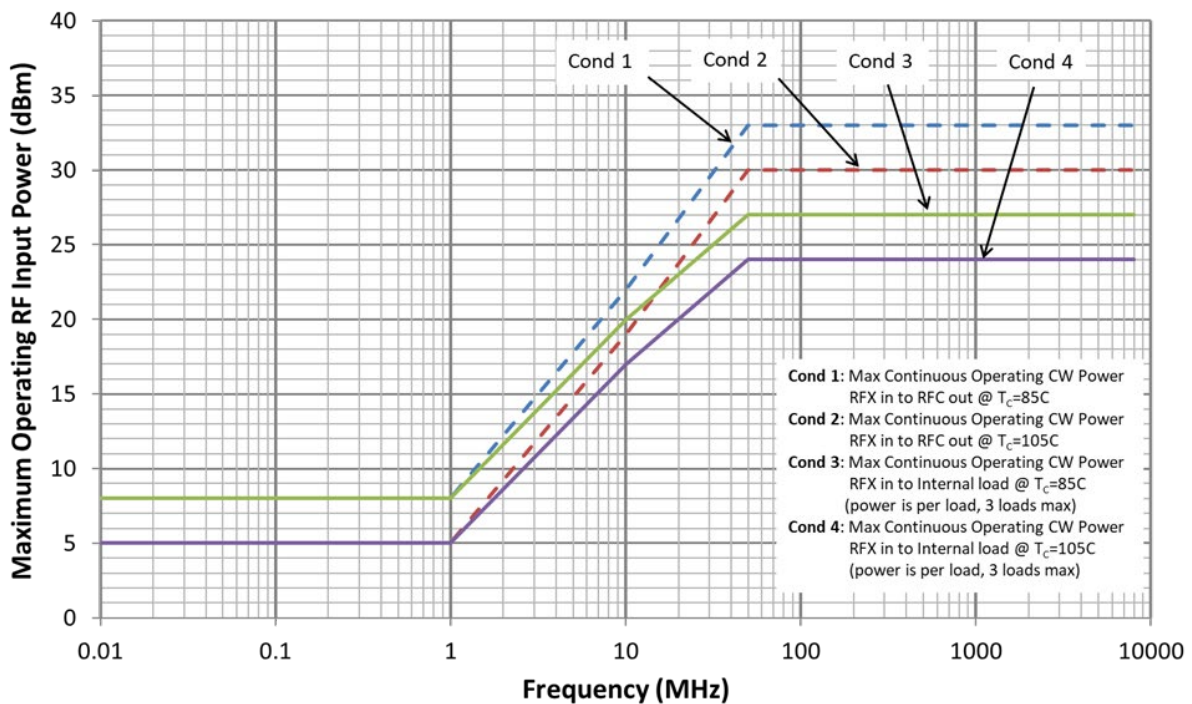

Figure 1. Maximum RF Input Power vs. RF Frequency
- Levels based on TC ≤ 85 °C. See Figure 1 power derating curve for higher case temperatures.
3. The input 0.1dB compression point is a linearity figure of merit. Refer to Absolute Maximum Ratings section for the maximum RF input power and Figure 1 for maximum operating RF input power.